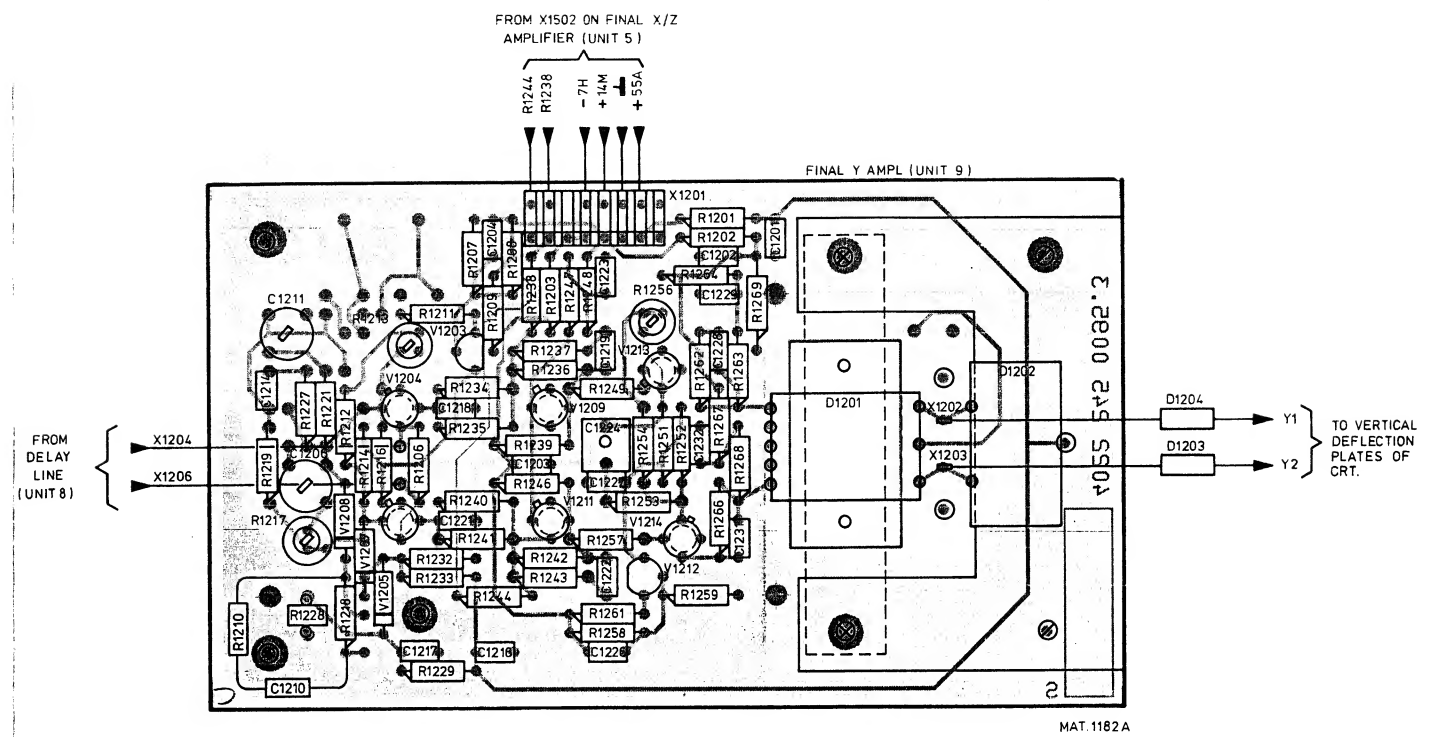

Fig. 4. Final Y amplifier, p.c.b. lay out.
- Unit 9: final Y amplifier (see fig. 4).